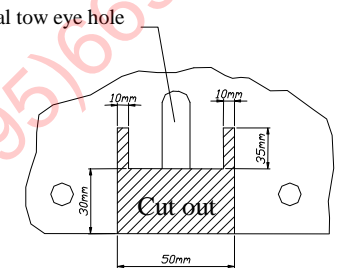

Fig. 4
8. Reinstall plastic cover after cut her fragment as shown figure 4.
9. Through hole (pos. B) and original tow eye twist on bolt M10x70mm using special scathing washers (pos. 5).
10. Fix tow-ball (pos. 2) and socket plate (pos. 3) by bolts M12x75mm (pos. 7) from accessories.